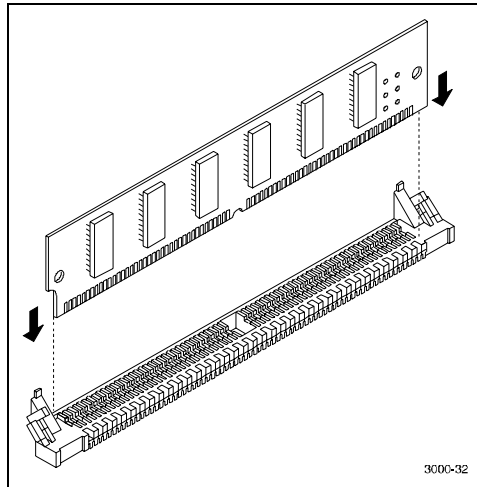

Figure 1-6. Insert SIMM into connector
1. Install two of the SIMMs into the second controller (make sure all SIMMs are of the same type) by aligning the connector pins and inserting the modules into the connectors as shown in Figure 1-6.